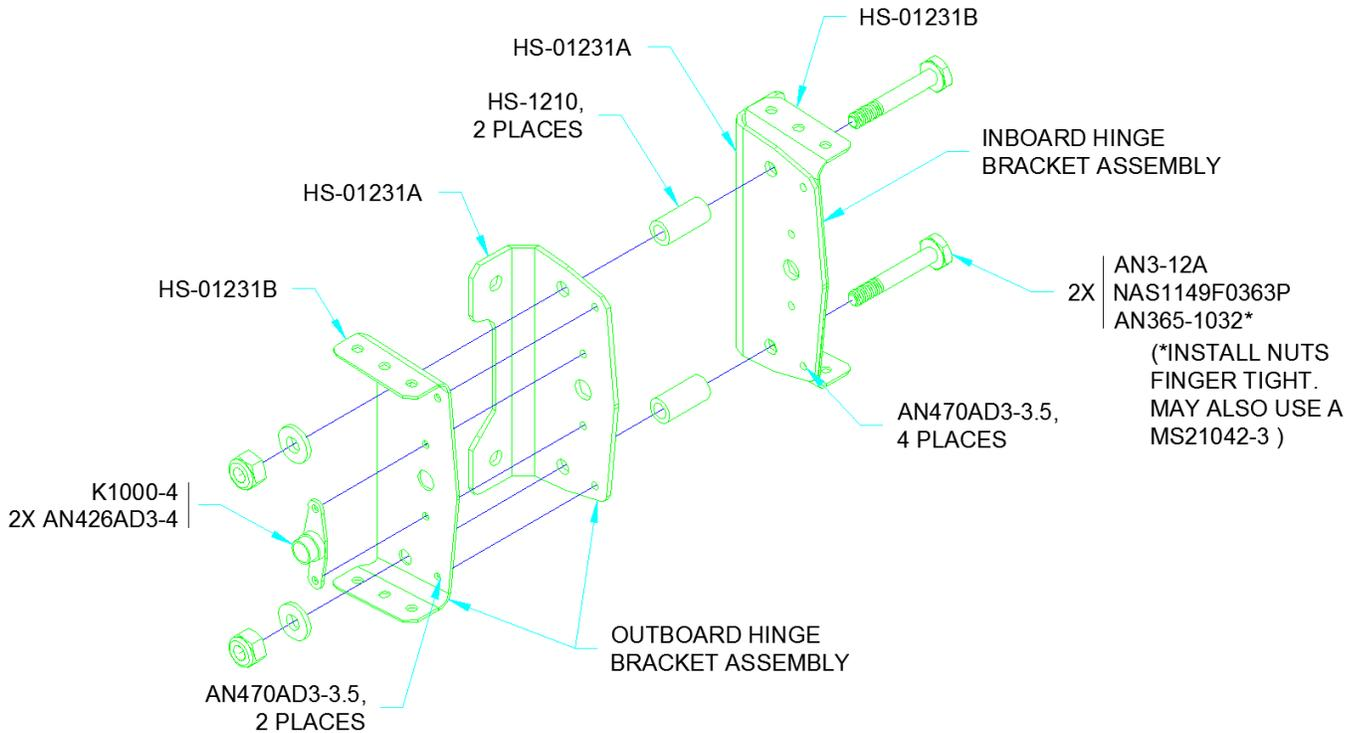
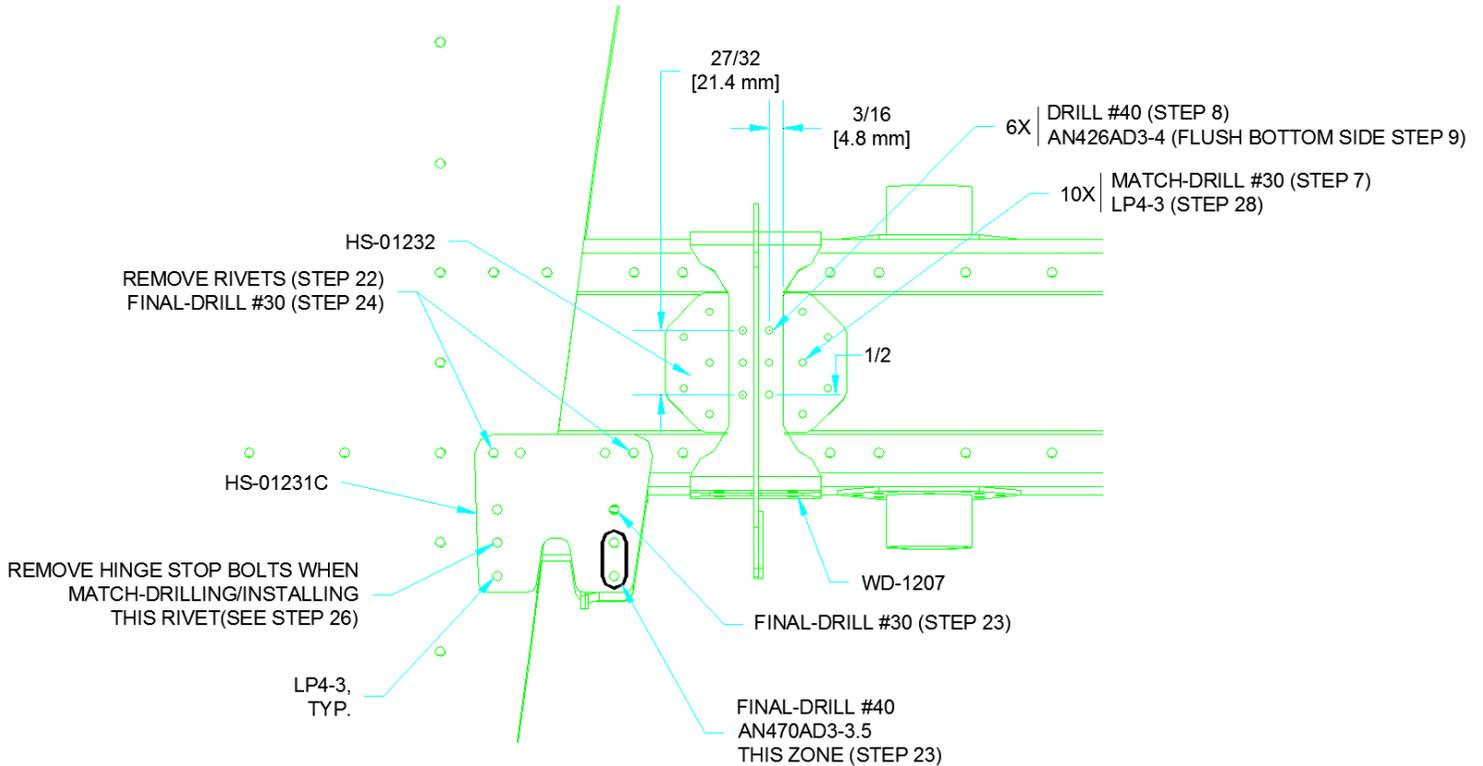

FIGURE 6: ASSEMBLING THE INBOARD AND OUTBOARD HINGE BRACKET ASSEMBLIES
FIGURE 8: INSTALLING THE STABILATOR HINGE GUSSETS
Step 5: Using the dimensions in Figure 8 mark then center punch the six AN426 rivet locations shown into the WD-1207 Stabilator Horn.
Center the HS-01232 Stabilator Horn Doubler beneath WD-1207. See Figure 8.
Step 7: Match-Drill #30 and cleco the HS-01232 Stabilator Horn Doubler shown in Figure 8 to the HS-1211 Spar Cap.
Machine countersink the six #40 hole locations on the bottom face of the HS-01232 for the rivets called out in Figure 8.
Step 19: Rivet HS-01231A to HS-01231B to make an Inboard Hinge Bracket Assembly. Make a second Inboard Hinge Bracket Assembly. See Figure 6.
Rivet HS-01231A, HS-01231B and a nutplate together to make an Outboard Hinge Bracket Assembly. Make a second Outboard Hinge Bracket Assembly. See Figure 6.
Step 20: Temporarily bolt the Outboard Hinge Bracket Assemblies to the Stabilator Assembly. Temporarily attach the HS-1210 Hinge Stops, bolts and the Inboard Hinge Bracket Assemblies. See Figures 6 and 7.
Step 22: Remove the two rivets indicated in Figure 8 (using a #30 drill bit) that coincide with the aft inboard and outboard attach holes for each HS-01231C Stabilator Hinge Gusset. Using these two locations, cleco all gussets to the Stabilator Assembly.
Step 23: Final-drill the #40 holes in the Inboard Hinge Bracket Assemblies. See Figure 8
Final-Drill #30 the single hole indicated in Figure 8 common to the gussets and the Inboard Hinge Bracket Assembly.
Step 24: Remove the two clecos used in Step 22. Final-Drill #30 both locations. See Figure 8.
Step 25: Remove the HS-01231C Stabilator Hinge Gussets (see Figure 8) and the bolts shown in Figure 6.
Step 27: Cleco then rivet the HS-01231C Stabilator Hinge Gussets to the Stabilator Assembly and Inboard and Outboard Hinge Bracket Assemblies. No spacer is required underneath the two aft inboard rivets. See Figure 8.
Final-install the hardware shown in Figure 6.
Step 28: Bolt then Rivet the WD-1207/HS-01232 and WD-1208/HS-01232 Assemblies to the Stabilator assembly as shown in Figure 8 and KAI Page 9-10.